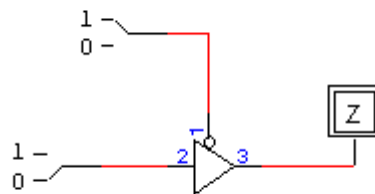

Figure 8 Tri-state with input switch
- In the same way with the AND gate, add an input switch and output probe as shown in figure 8.